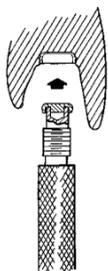
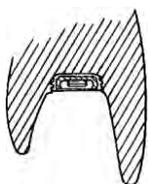

Fig. D5
Fig. D6
12. The LOCATOR® Male Seating Tool (attached to the LOCATOR® Core Tool) is used to firmly push a LOCATOR® Replacement Male into the empty metal denture cap. (Fig. D5) The Replacement Male must seat securely into place, level with the rim of the cap (Fig. D6).